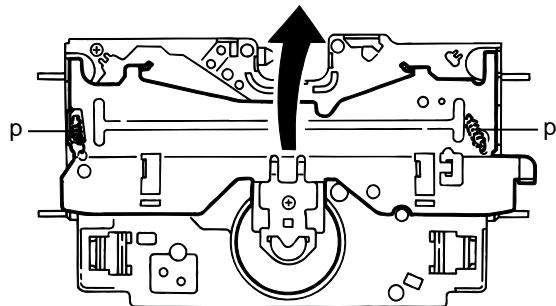

Fig.21
■ Removing the spindle motor (See Fig.21 and 22)